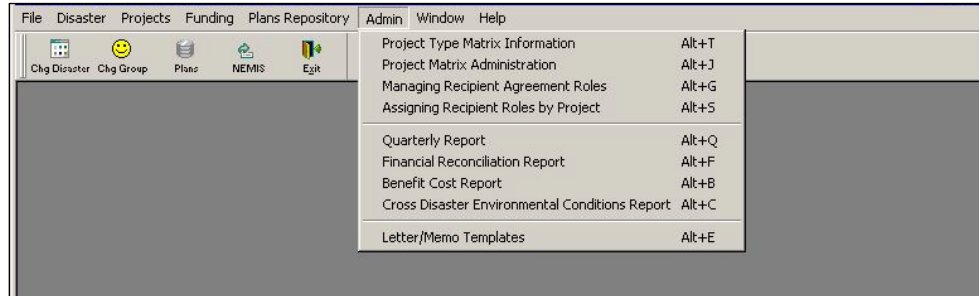

Figure 6-130: Mitigation > Admin > Project Type Matrix Information
1. On the Mitigation menu bar, click Admin > Project Type Matrix Information (Figure 6-130).